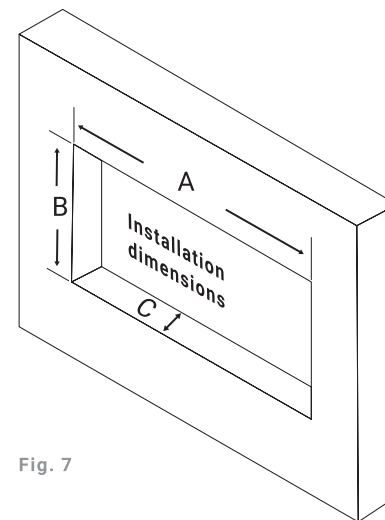

Fig. 7
- Choose a location that is not susceptible to moisture and complies with the prescribed minimum clearances. Ensure that the opening is large enough for the recess dimensions (see Figure 7).